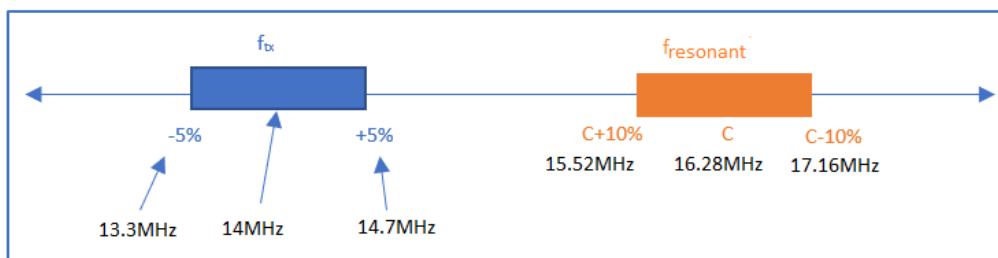

Figure B.1: Inductive Resonant Tank Design
- > Using  $\pm 10\%$  tolerance on  $C_{sel}$  and  $f_{resonant} = \frac{1}{2\pi\sqrt{L \times C}} = \frac{1}{2\pi\sqrt{1.1 \times 10^{-6} \times C_{sel}}}$ , we get the results below and the summary of the result shown in Figure B.1.